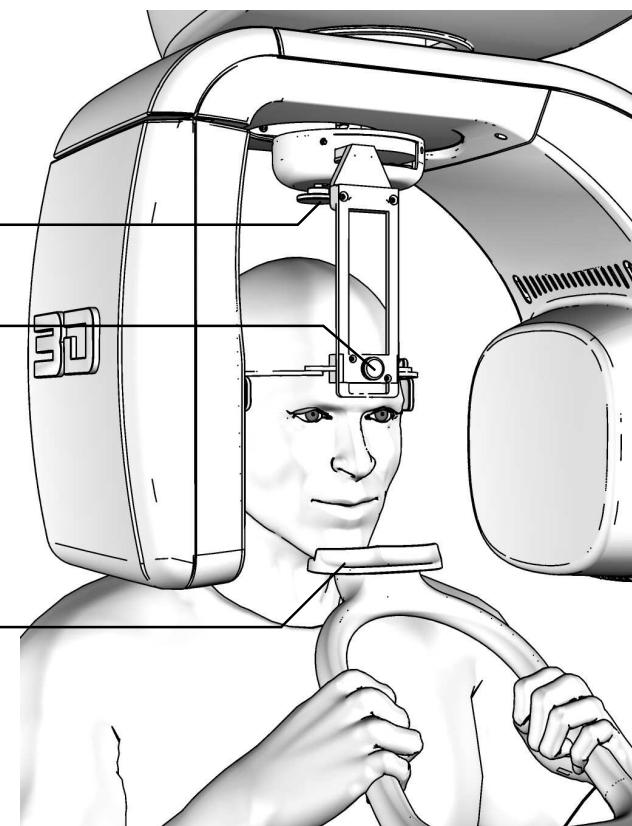

Figure 26 - 3D TMJ Left positioning
Check that the temple clamp device is in the 3D TMJ Left position (patient right side - Figure 14); if necessary move it into the correct position by means of the knob (3 - Figure 26).
4. Place the patient in the temple clamp (Figure 26) by placing the chin on the surface of the relevant support; the hands should rest on the front handgrips; the patient must rest his chin against the reference on the chin support, using the right side (patient entrance view) of the support itself.
6. Place the temple clamp in contact with the patient's head by means of the appropriate knob (4 - Figure 26). In order to help the patient maintain the correct posture, use the head strip on the temple clamp passing it behind the nape of the patient's neck; check that, during this phase, the patient has not changed position.